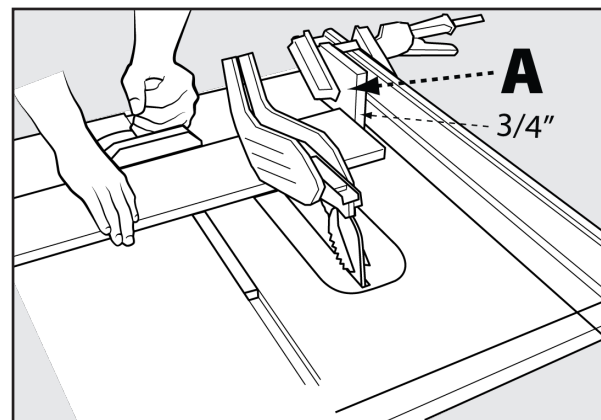

FIGURE 25
When crosscutting a number of pieces to the same length, you can clamp a block of wood (A) (See Figure 25) to the fence and use it as a cut-off gauge. The block (A) must be at least 3/4-inch (19 mm) thick to prevent the cut off piece from binding between the blade and the fence. Once the cut-off length is determined, lock the fence and use the miter gauge to feed the workpiece into the blade.